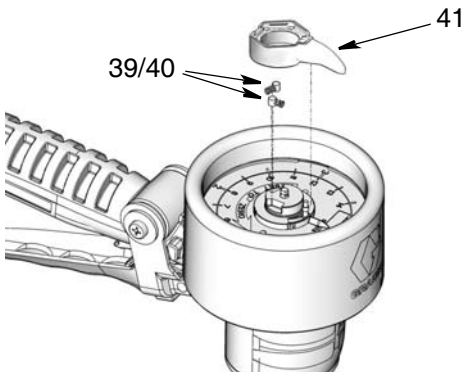

FIG. 15
3. Remove the needle pointer (41), springs (39) and pins (40) (FIG. 15).